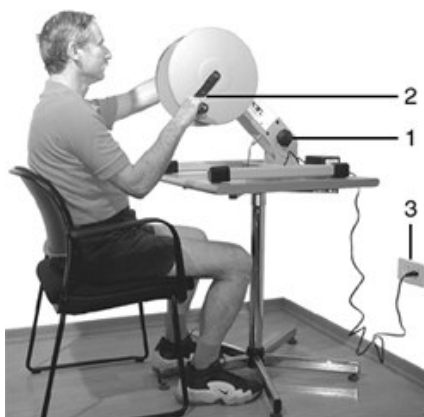

Figure 5
Step 1: Position the **APT-5** on a level table top close to an electrical socket outlet (Figure 5).